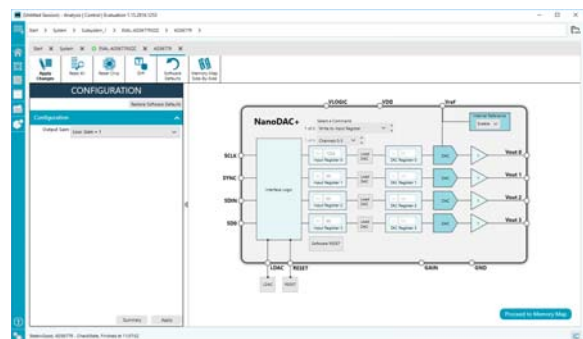

Figure 3. Chip Block Diagram of the AD5677R
4. Double-click the AD5677R chip to access the chip block diagram. This view provides a basic representation of the functionality of the board. The main functions of the board are labeled in Figure 3.